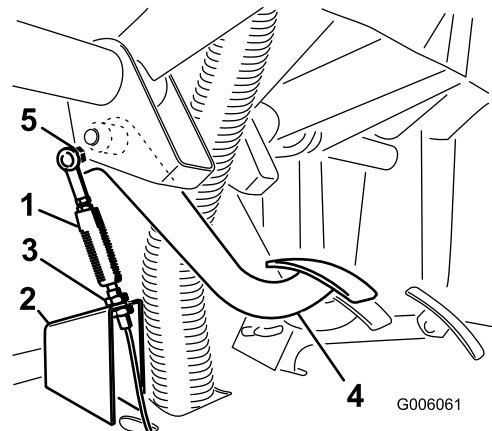

Figure 4
7. Loosen the jam nuts securing the clutch cable to the bracket (Figure 4).
8. Remove the nut securing the clutch cable ball joint to the clutch pedal (Figure 4). Remove the ball joint.